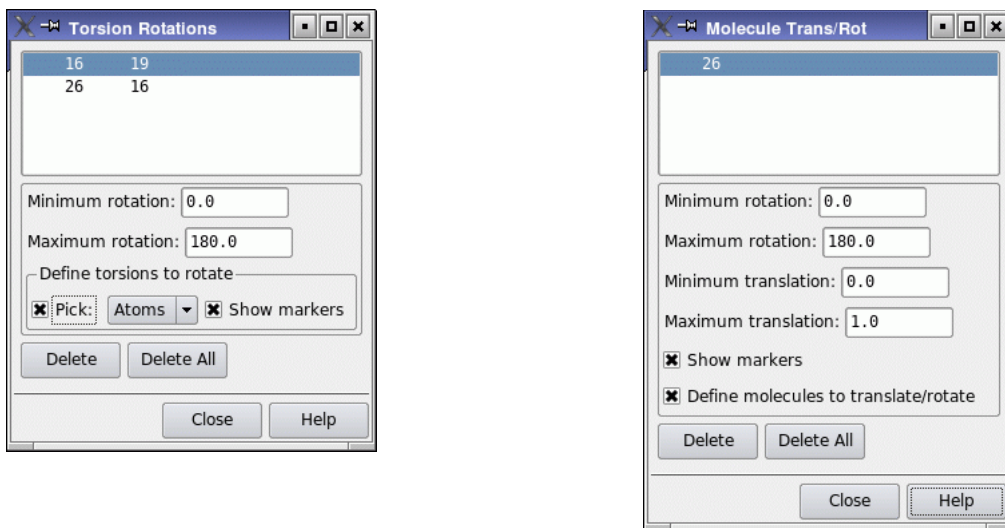

Figure 4.3. The Torsion Rotations panel (left) and the Molecule Trans/Rot panel (right).
- In the CSearch tab, from the Search variables option menu choose Torsion Rotations, then click Edit, to open the Torsion Rotations panel (see Figure 4.3).
14. In the CSearch tab, from the Search variables option menu choose Molecule Trans/Rot, then click Edit, to open the Molecule Trans/Rot panel (see Figure 4.3).